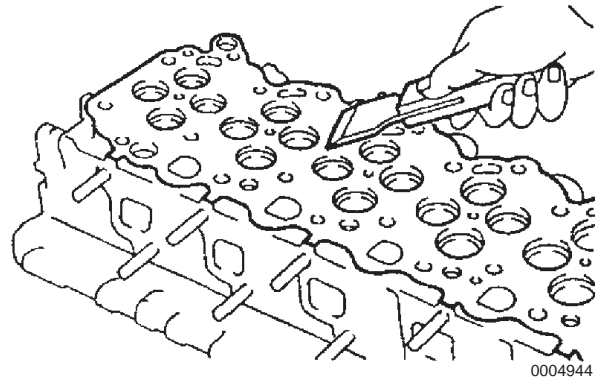

Figure 5-19
4. Remove all gasket materials from the cylinder head deck surface, using a scraper (**Figure 5-19**). **NOTICE:** AVOID damaging the cylinder head deck surface during cleaning.